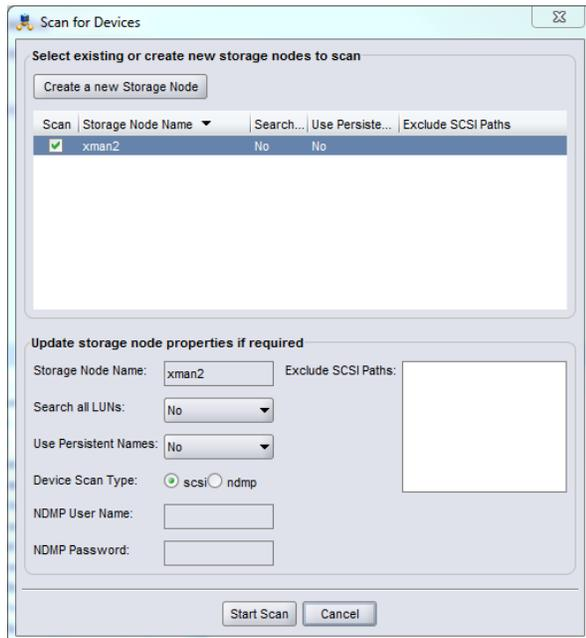

Figure 5: NetWorker Scan for Devices.
- 1) From the NetWorker GUI, navigate to the Devices on the top level icon bar, highlight the name of the NetWorker Server (xman2), right click and choose Scan for Devices. Select to scan all servers in the configuration (xman2). The library will be automatically discovered by NetWorker, provided the OS is able to access it. (See figure 5):